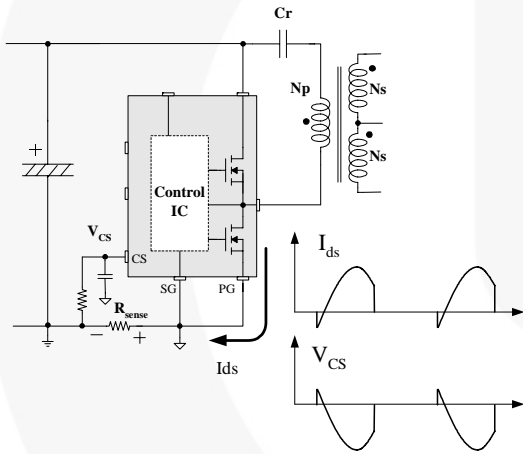
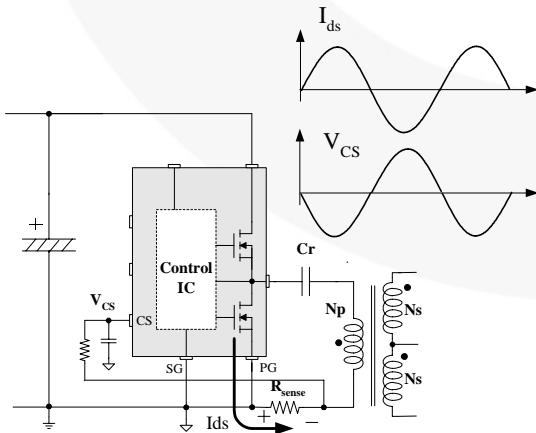

Figure 25. Half-Wave Sensing
Figure 26. Full-Wave Sensing
**Current Sensing Using Resistor:** FSFR-series senses drain current as a negative voltage, as shown in Figure 25 and Figure 26. Half-wave sensing allows low power dissipation in the sensing resistor, while full-wave sensing has less switching noise in the sensing signal.